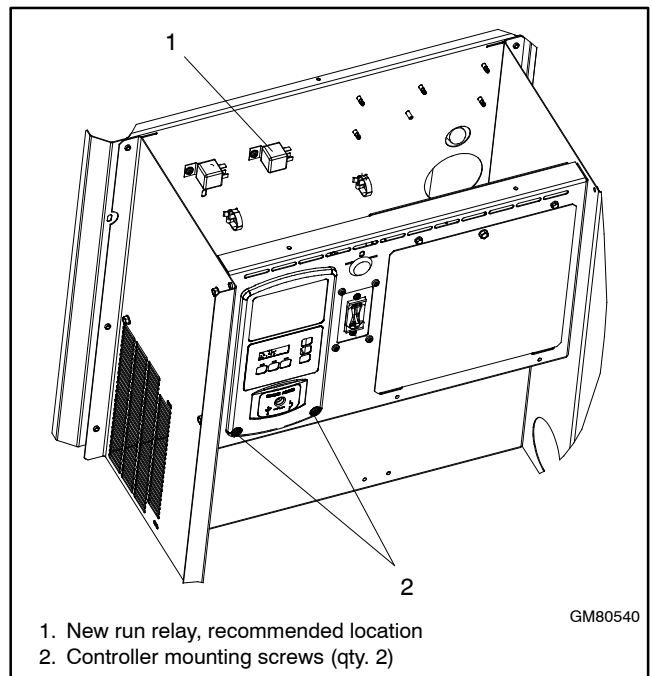

Figure 30 VSC Controller Mounting and Relay Location
7. Remove the two (2) screws securing the controller to the junction box and *carefully* lift the bottom edge of the controller. See Figure 30.
- a. Use the hardware provided in the relay kit to install the new run relay in the junction box, near the existing relay. See Figure 30.